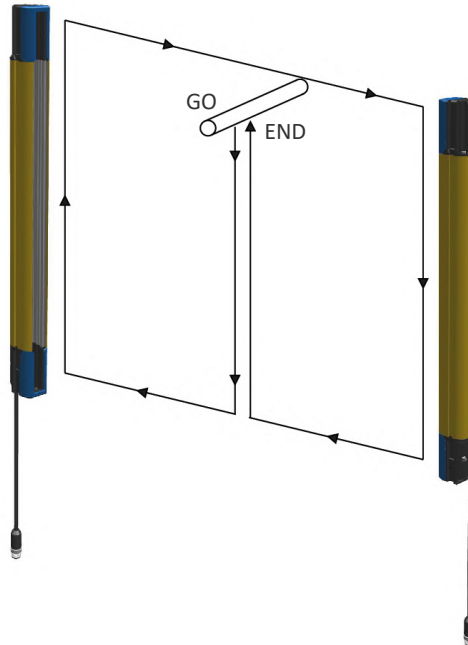

Figure 16: Path of the test piece
- The ESPE remains in Safe State intercepting the beams along the detection zone using the specific test piece (TP-14, TP-30), following the scheme shown in Figure 16.